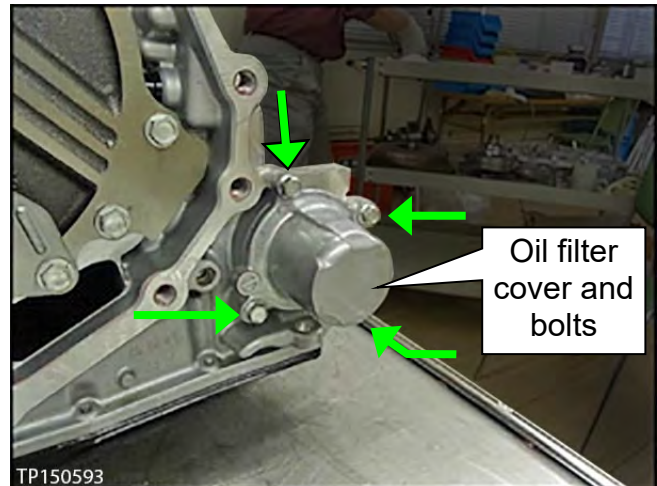

Figure 48
1. Remove the four (4) bolts, and then remove the CVT fluid filter cover (see Figure 48).